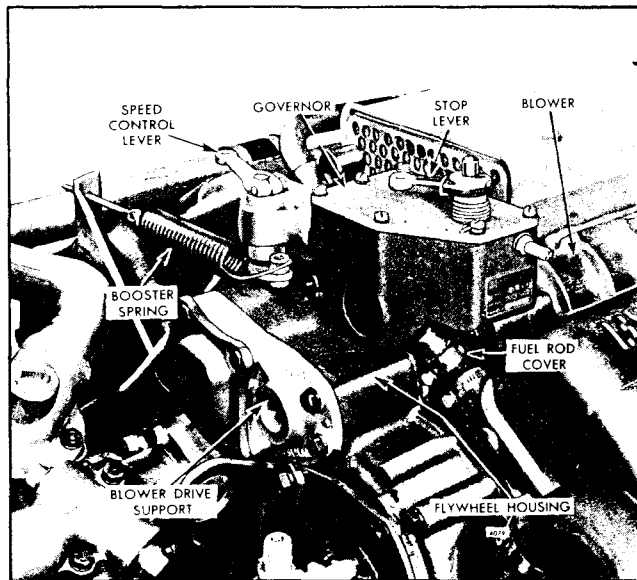

Fig. 1 - Governor Mounting
4. Mount the fuel pump, coupling and gasket on the governor housing (Fig. 1), turning the pump shaft until the coupling engages the drive end of the governor operating shaft. Secure the pump to the governor with three 5/16" - 18 x 7/8" bolts.
The variable speed mechanical governor, illustrated in Fig. 1, performs the following functions:
1. Disconnect the throttle control rod and the booster spring (Fig. 1) from the speed control lever.